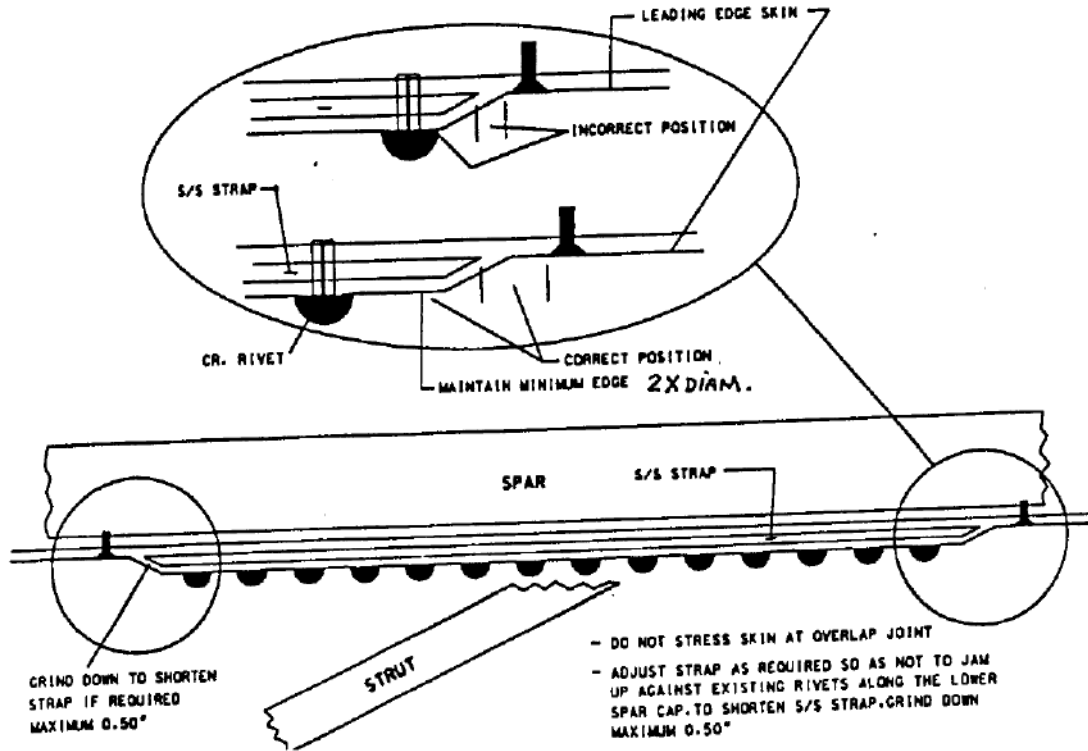

Figure 4: Positioning of Stainless Steel Strap Between Rivets
- 5) Slide the stainless steel strap under the leading edge wing skins and up against the under wing skin along the spar channel and then center the stainless steel strap on the mark made at step 1. Note that both extremities of the 16” stainless steel strap have been tapered for your convenience. If the strap is set up to tightly against an existing rivet on the underside of the spar cap, the strap may be too long and should be shortened. Shorten the strap by grinding it down (a maximum of 0.50 “) in order to relieve stress load on the lower leading edge skin. On occasion, due to the proximity of other rivets, the extremities of the s/s strap may cause undesirable stress on the underside wing leading edge skins. If this occurs, remove rivet(s) in affected area and reinstall using locally fabricated aluminum shims in order to create a more gentle taper at the extremity of the stainless steel strap. (Refer to figure 4 for more details on positioning of the stainless steel strap.)